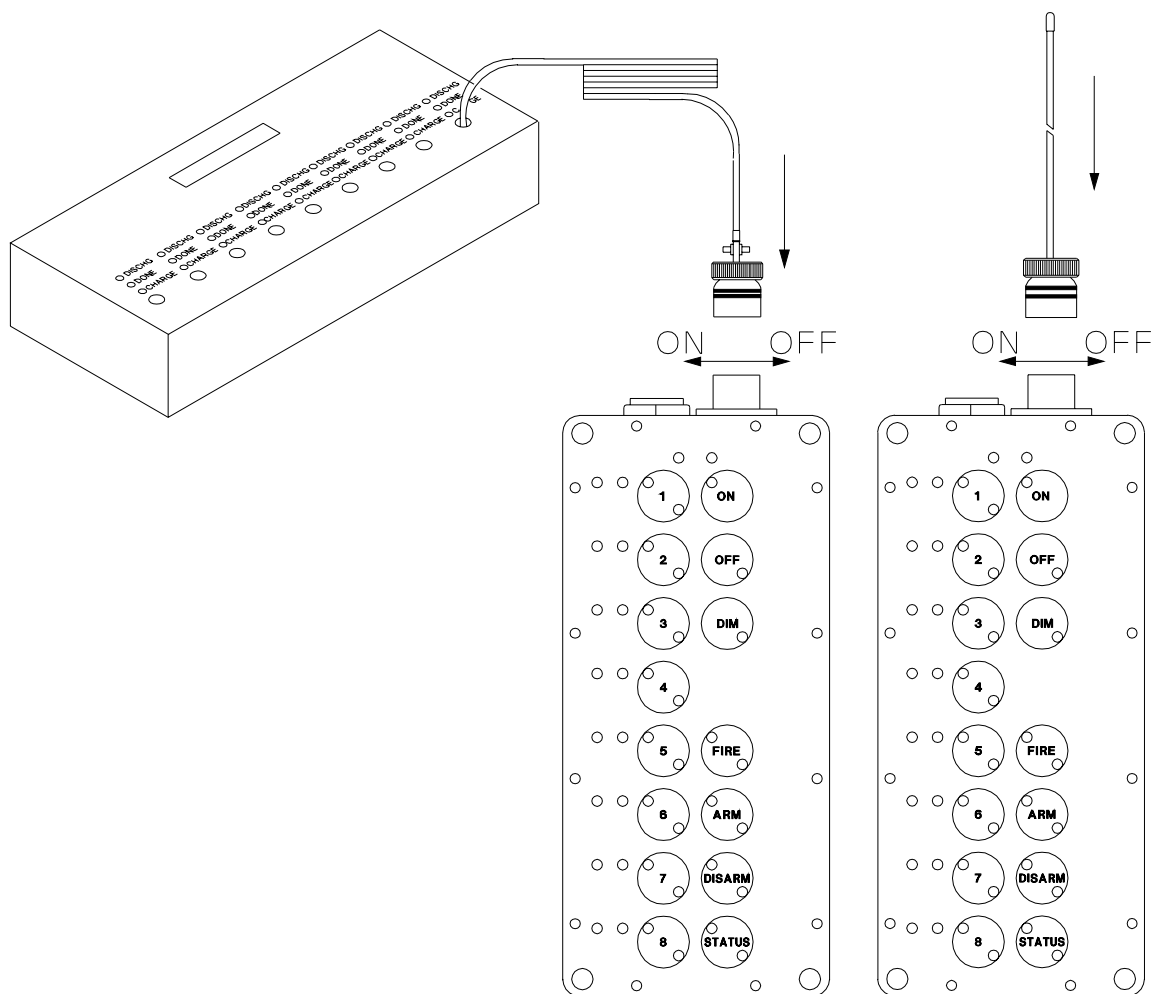
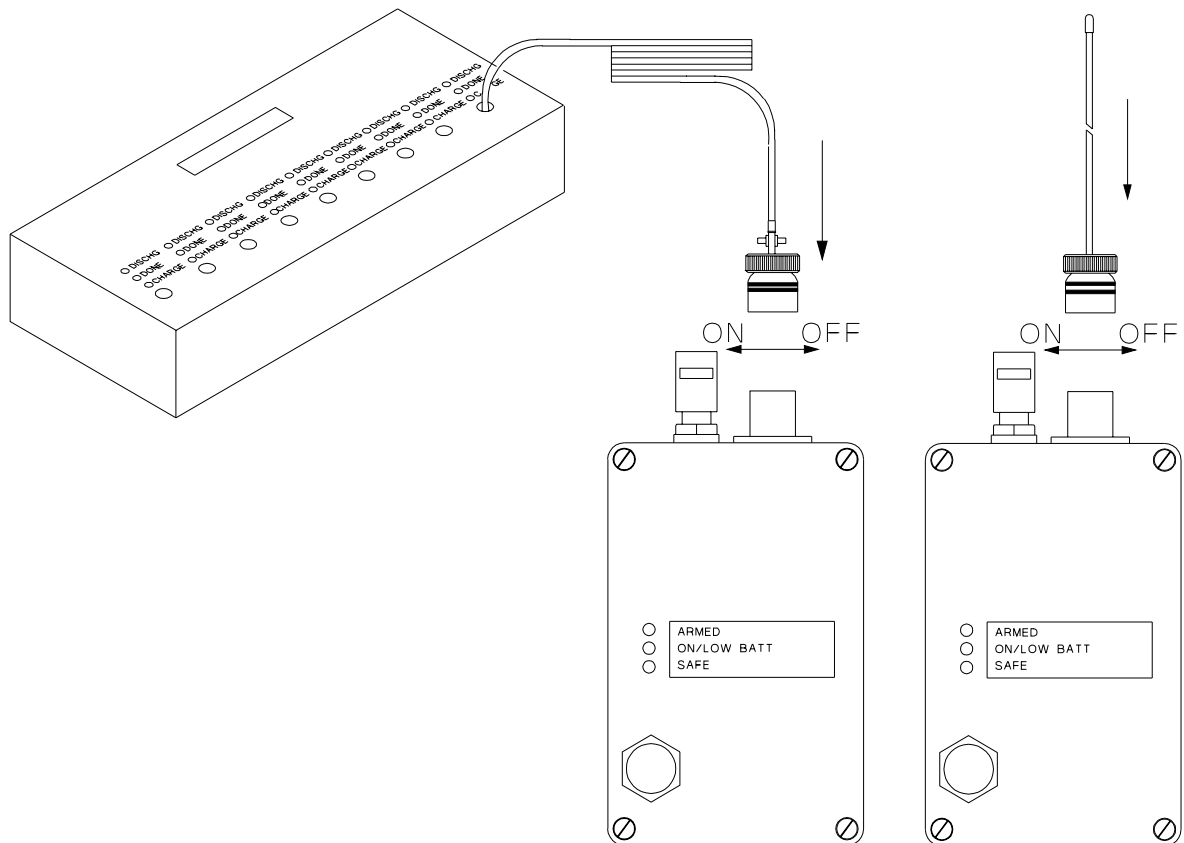

Figure 2-8 Controller Antenna / Battery Charger Connection.
Figure 2-9 Detonator Antenna / Battery Charger Connection.
2.10.1. Figure 2-8. & Figure 2-9. The Controller Unit and Detonator Unit antenna / battery charger connector accommodates the input requirements for both the Antenna Assembly and the Battery Charger Assembly. The unit electronics and battery pack are only connected together when the Antenna Assembly is connected to the antenna / battery charger Connector.